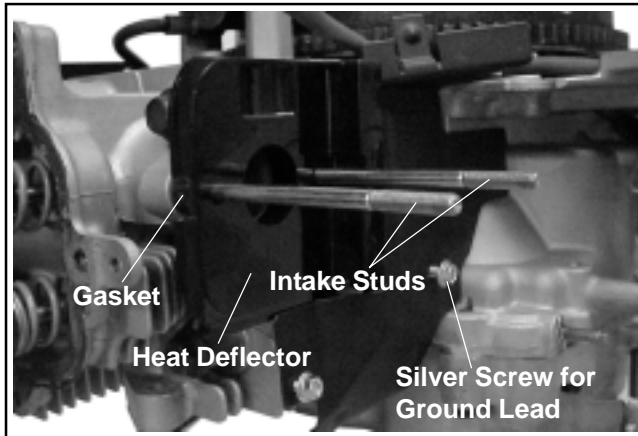

Figure 11-51. Installing Heat Deflector and Carburetor Side Baffle (not on all models).
3. Install gasket and heat deflector to the intake studs. Place the carburetor side cylinder baffle in position and attach with the one hex. flange screw. Temporarily install the silver screw if the screw also attaches the fuel solenoid ground lead. See Figure 11-51.